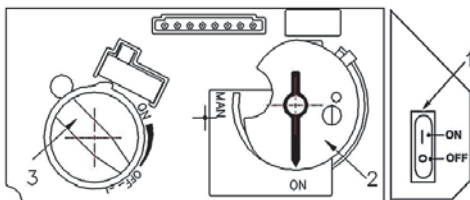
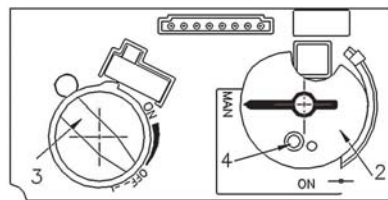
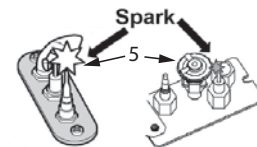

Fig 1
Fig 2
Fig 3
2. SET ON/OFF SWITCH (1) TO "OFF" POSITION.
- Wait five (5) minutes to clear out any gas, then smell for gas, including near the floor. If you smell gas, STOP! Follow "B" in the safety information above on this label. If you don't smell gas, go to the next step.
3. **AUTOMATIC IGNITION (fig. 1):** Locate the pilot (fig 3.) inside of firebox at Left Hand side.
- ON/OFF switch (1) in ON position, MAN-knob (2) in ON position; set Flame Adjustment knob (3) to lowest setting (U);
- When the pilot is lit, the Flame Adjustment knob (3) will automatically rotate to the highest setting.
4. **MANUAL IGNITION (fig. 2):** With the window off, locate the pilot (fig. 3) inside of firebox at Left Hand side;
- ON/OFF switch (1) in ON position, MAN-knob (2) in MAN position;
- Set Flame Adjustment knob (3) to the lowest setting (U);
- Push down the metallic core (4) with a pen or similar instrument; this will establish the pilot gas flow;
- Light gas at the pilot (5) with a match;
- Continue holding down metal core (4) for about 10 seconds; after release, pilot should remain lit;
- If the pilot will not stay lit after several tries, turn the gas control knob (3) to "OFF" (U) and call your local service technician or gas supplier.